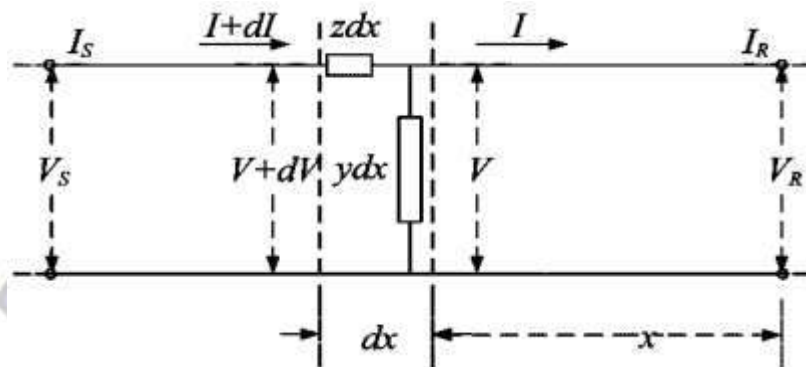

Fig. 33:
- Figure 33 shows one phase and neutral connection of a 3-phase line with impedance and shunt admittance of the line uniformly distributed.